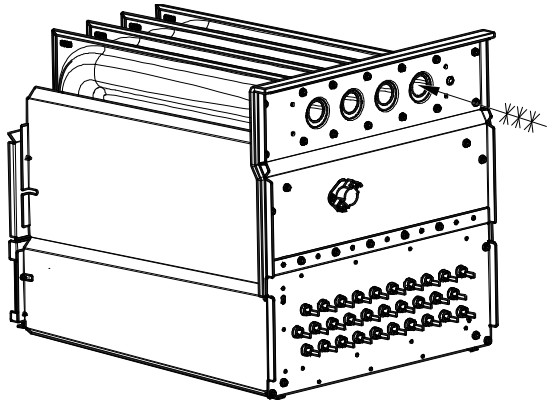

Fig. 70 – Cleaning Heat Exchanger Cell A11273
7. Clean heat exchanger openings with a vacuum and a soft brush. See Fig. 70.